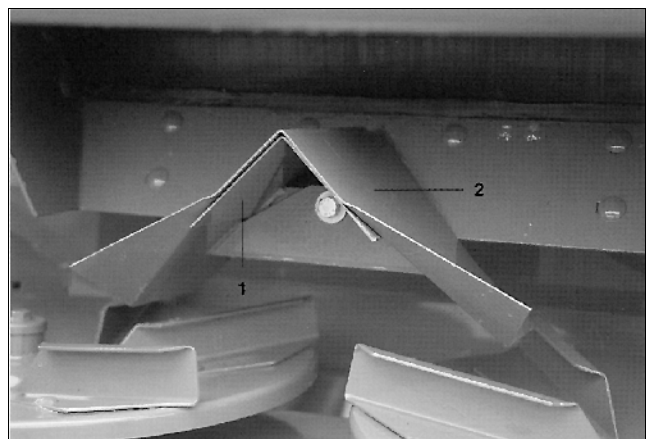

Fig. 44
- remove the additional roof chute (Fig. 44/1)
If granular fertiliser is to be spread using the lime spreading discs, the additional chute (Fig. 44/2) must be fitted to optimise the drop point of the fertiliser onto the spreading discs. This chute is simply bolted on top of the chute that is already mounted (Fig. 44/1).